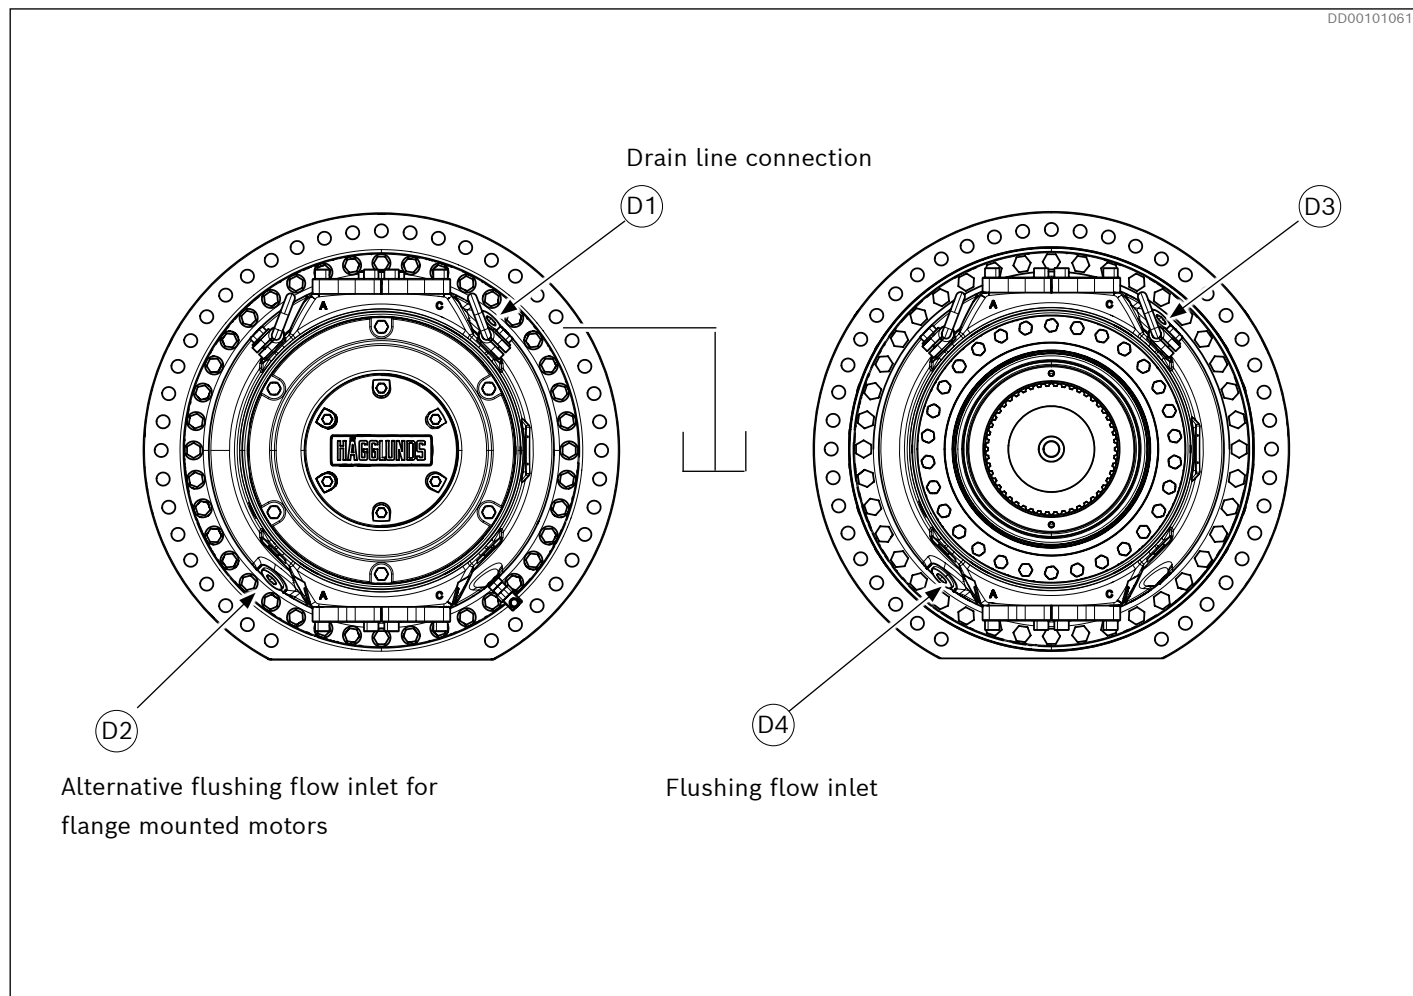
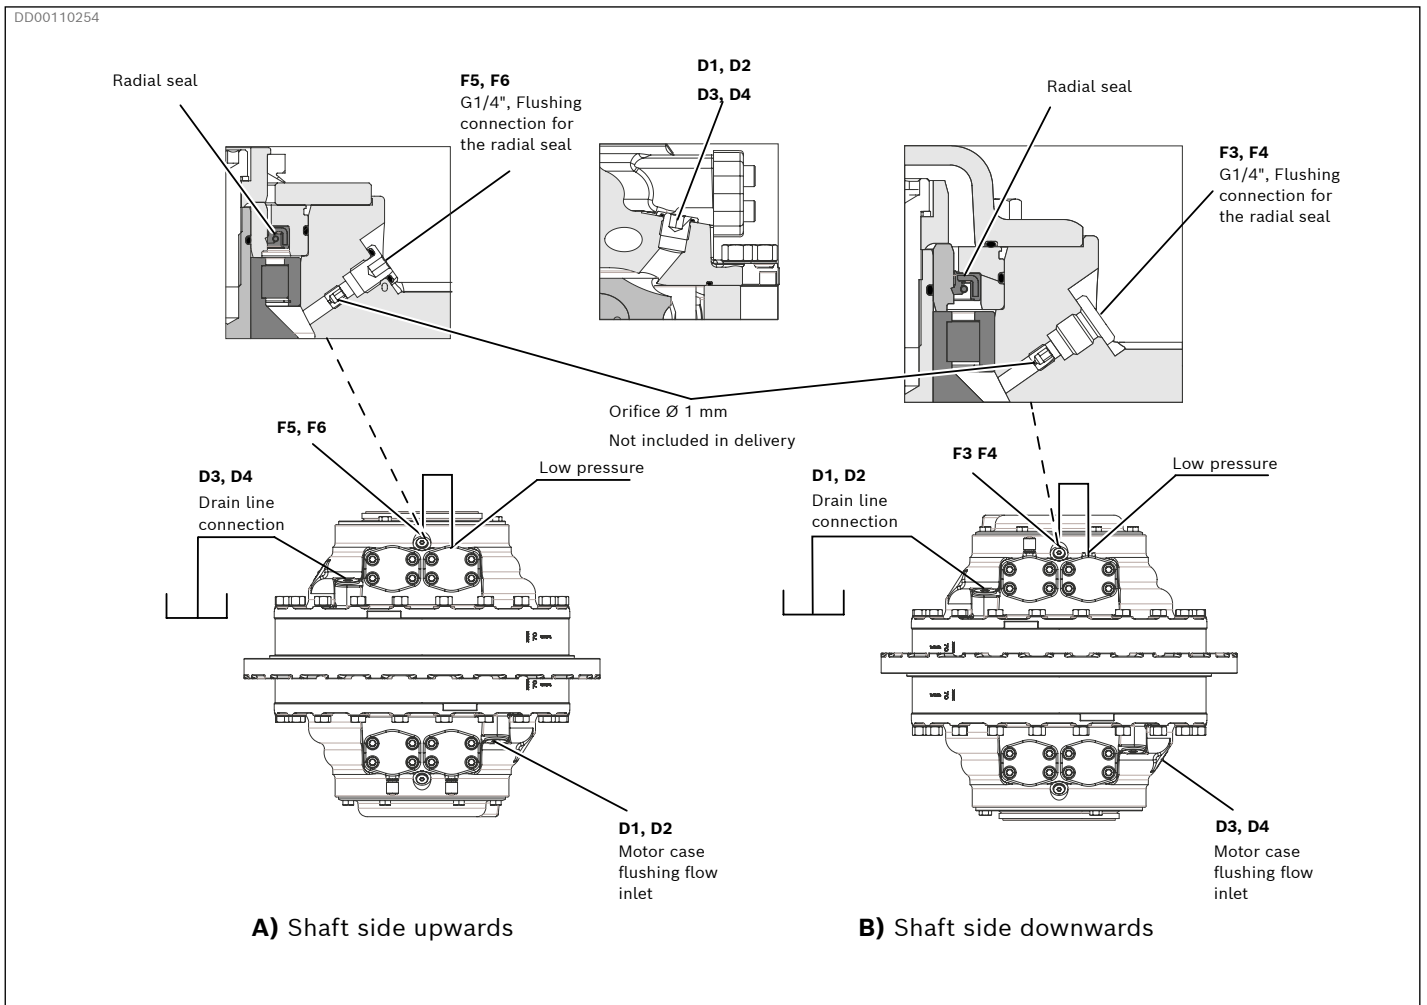
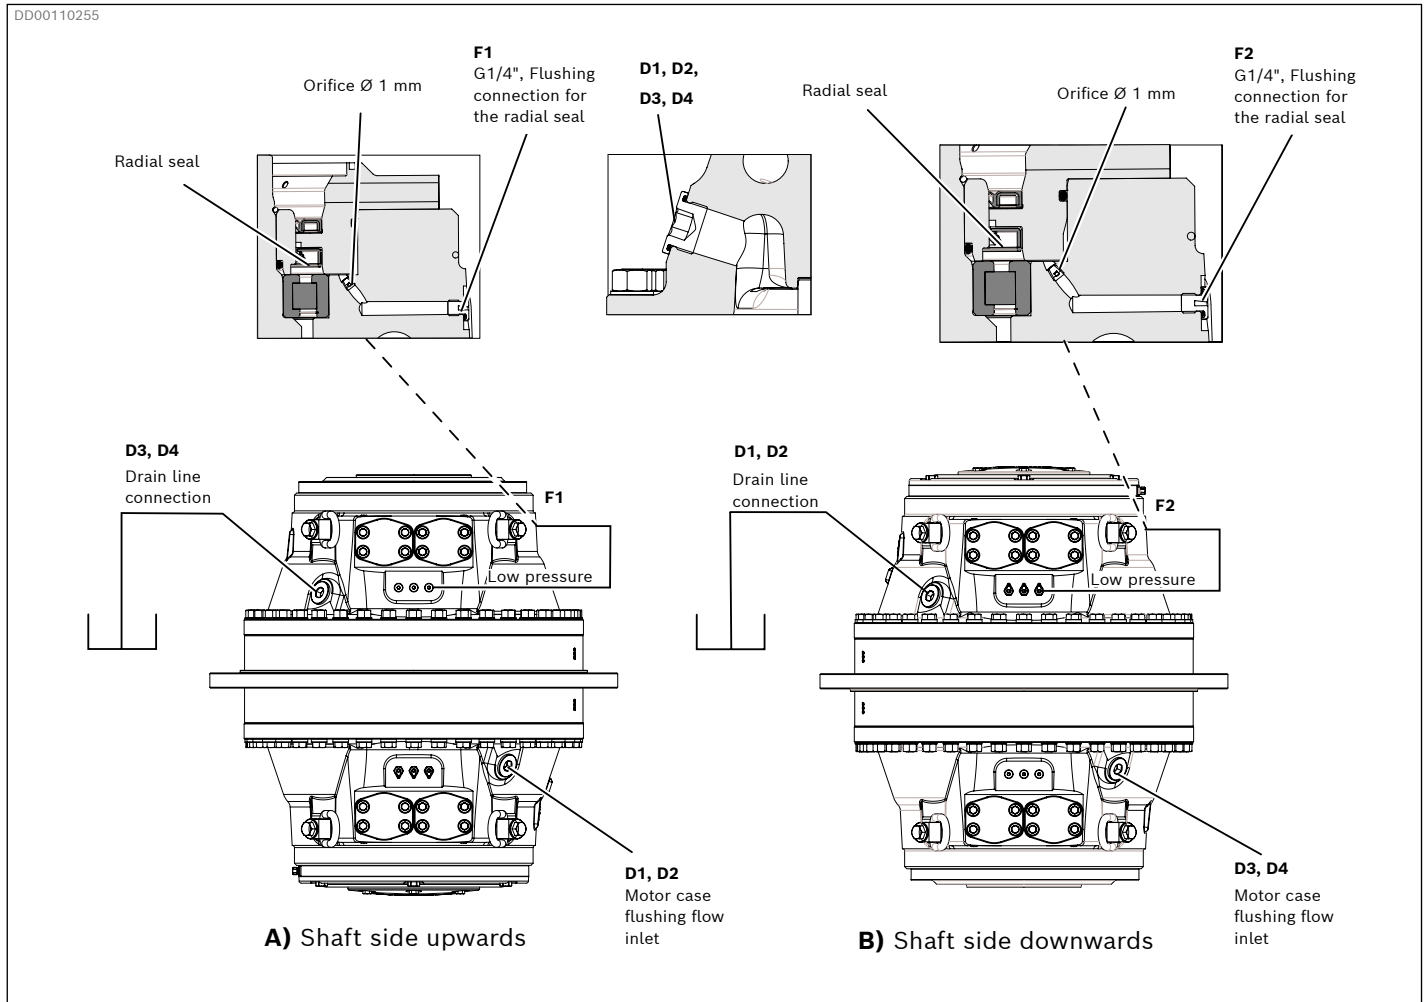

Fig. 28: Horizontal mounting
Fig. 29: Vertical mounting CBp 140
Fig. 30: Vertical mounting CBp 280 to CBp 840
When the motor is installed with the shaft in the horizontal plane, the highest of the drain outlets D1 to D4 must always be used (see Fig. 28).
A) Motor shaft pointing upwards (See Fig. 29 alt. A) Shaft side upwards).
B) Motor shaft pointing downwards (See Fig. 29 alt. B) Shaft side downwards).
A) Motor shaft pointing upwards (See Fig. 30 alt. A) Shaft side upwards).
B) Motor shaft pointing downwards (See Fig. 30 alt. B) Shaft side downwards).
For flushing flow inlets, see Fig. 28, Fig. 29 and Fig. 30.